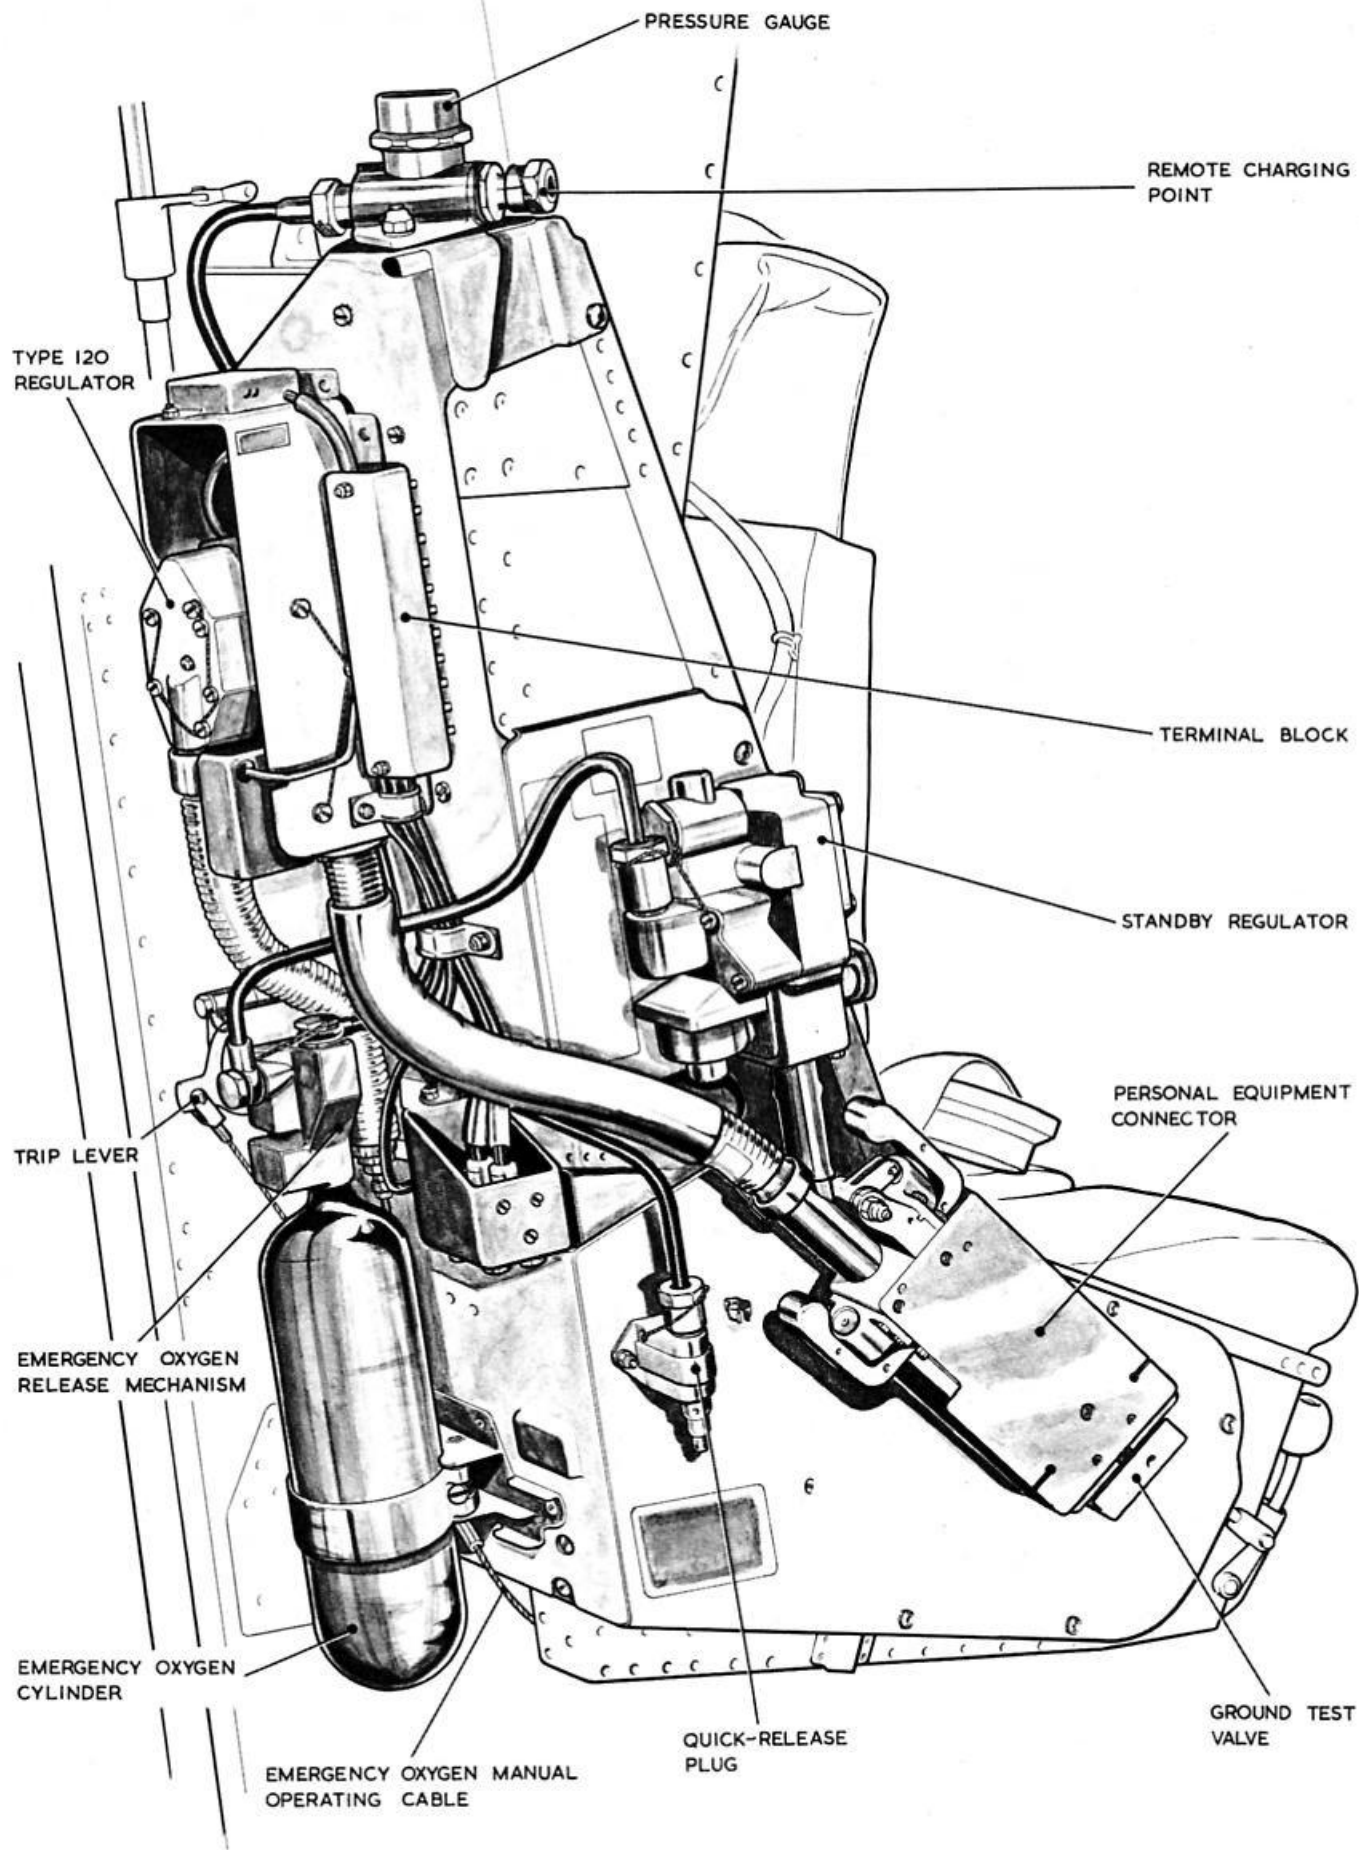

Fig. 1. Seat mounted oxygen group assembly
16. The following procedure is to be adopted when installing the equipment in the seat; refer to fig. 1 to 6 for details as necessary.
- (1) The seat mounted oxygen group assembly (*fig. 1*) must be fitted before the seat and ejection gun assembly are installed in the aircraft. Detailed instructions for fitting the oxygen group assembly are contained in A.P.4288D, Vol. 1.
- (2) Remove and retain the safety pin from the emergency oxygen cylinder operating head.
- (3) Ensure that the leg restraint cords are clear of the seat and that the seat pan is clean.
- (4) Place the parachute pack on its support bracket temporarily and ensure that the pack restraining straps and headrest cushion are immediately available.
- (5) Ensure that the harness straps are not twisted. Operate the harness "go-forward" lever, pull out the strap under the support bracket and pass it downwards through the D-shackle.
- (6) Lift the parachute pack forward (this may be done before pulling out the